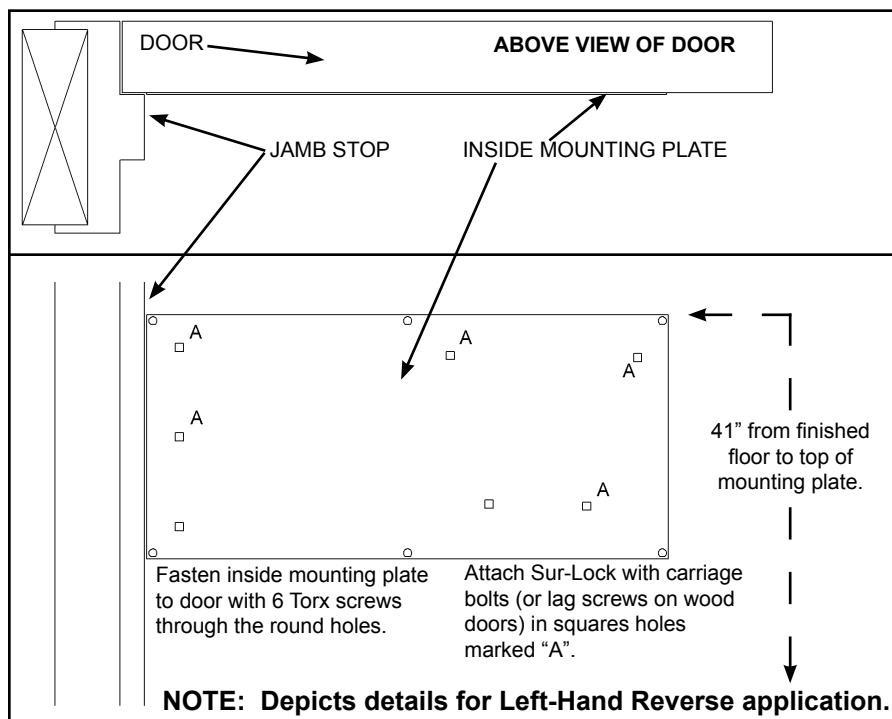

FIGURE 1
3. Keeping the door closed, place the inside mounting plate against the inside surface of the door - aligning so that the top edge of the mounting plate is even with the mark made in the previous step and the jamb-side edge is even with the stop on the door jamb. (See Figure 1)